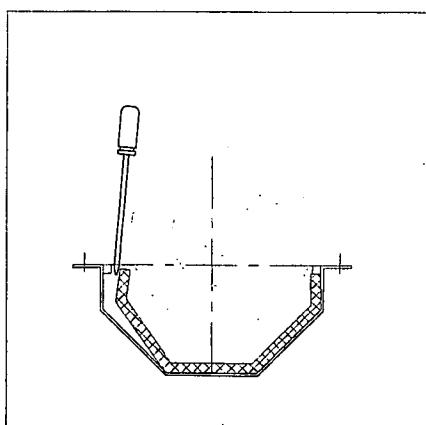

Figure 5.2c - Levering Out the Liner
4. Insert a heavy duty screw driver or lever down between the octagonal trough and the UHMW P.E. liner so that it releases from its steel block retainers (see fig 5.2c).